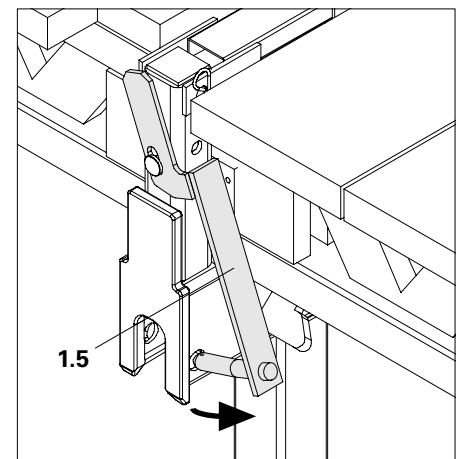

Fig. B4.02
10. Swivel securing bolt (1.5) to one side. (Fig. B4.02)